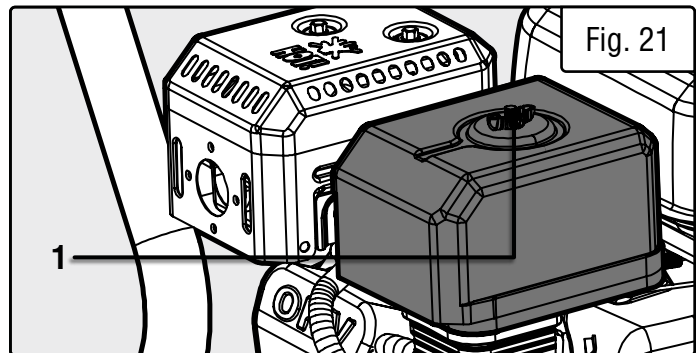

Fig. 21
1. Loosen and remove the wing nut (Fig. 21 - 1) on top of the air filter cover, then remove the cover.